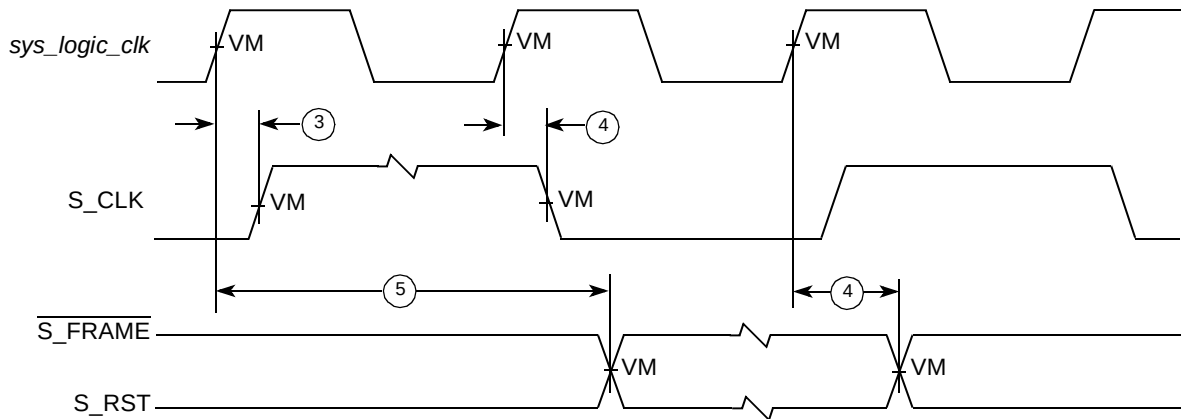
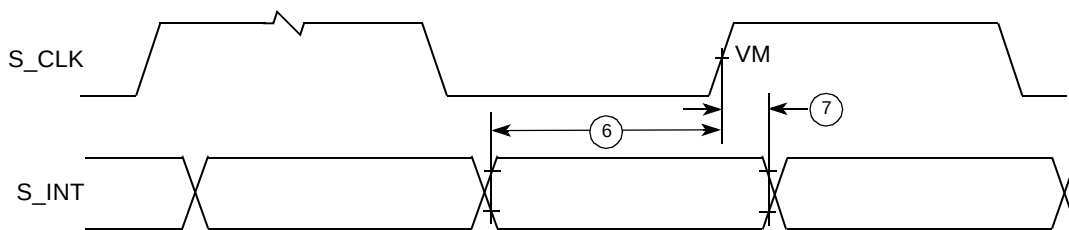

Figure 18. PIC Serial Interrupt Mode Output Timing Diagram
Figure 19. PIC Serial Interrupt Mode Input Timing Diagram
- S_RST, S_FRAME, and S_INT shown in Figure 18 and Figure 19, depict timing relationships to sys_logic_clk and S_CLK and do not describe functional relationships between S_RST, S_FRAME, and S_INT. The *MPC8245 Integrated Processor Reference Manual* describes the functional relationships between these signals.